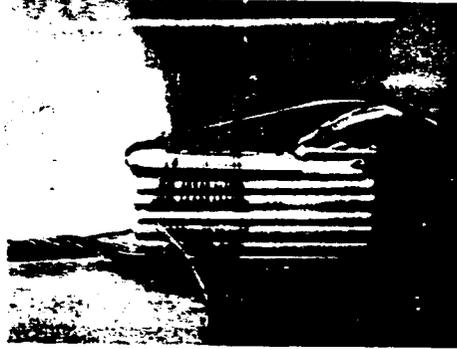

FIG. 53 R4862 PRESS TOOL WITHOUT SPACER (PAR. 6.13)
6.13 Use the R-4862 pressing tool with spacer removed to attach the test module (or test cable module; refer to Para. 4.4). An empty receptacle assembly must be used to press the module in place if the module contact forks are to be used as probe points. See Fig. 53.